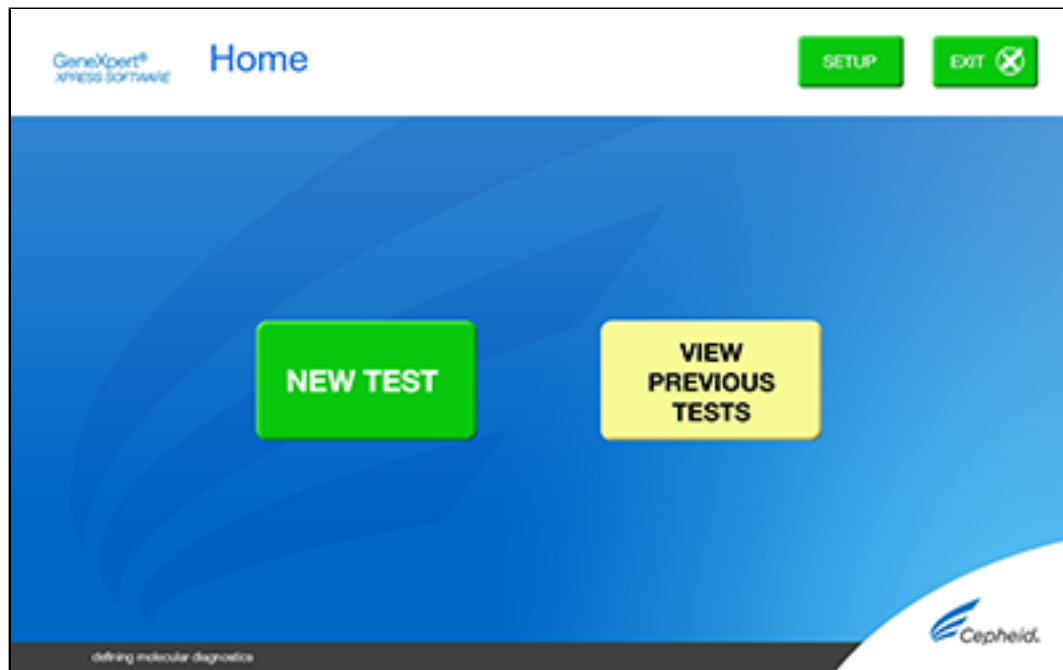

Figure 13. VIEW PREVIOUS TESTS button on Home Screen
1. Touch the **VIEW PREVIOUS TESTS** button on the **Home** screen shown in Figure 13.